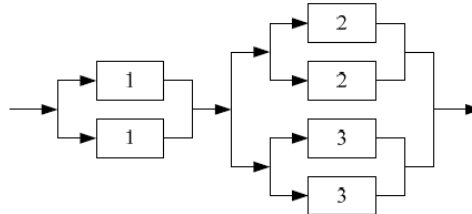

Figure 2A. Reliability block diagram
| <p>1A Define the following;</p> <p>i. Maintainability</p> <p>ii. Risk</p> <p>iii. Availability</p> <p>iv. MTBF</p> <p>1B Derive the expression for failure rate of a continuous random variable.</p> <p>1C With neat diagrams, explain reliability centered maintenance.</p> <p>2A Evaluate the MTTF for the system depicted in Figure 2A. Components are used during the phase with an approximately constant failure rate of the bath-tube curve and $\lambda = \lambda_1 = \lambda_2 = \lambda_3$.</p> <p>2C Describe fault tree analysis with a suitable example.</p> <p>3A Prove that component redundancy of a product is better than the system redundancy of a product.</p> <p>3B The failure time (T) of an electronic circuit board follows an exponential distribution with failure rate $\lambda = 10^{-4}$ /h. What is the probability that (i) it will fail before 1000 h; (ii) it will survive at least 10,000 h; (iii) it will fail between 1000 h and 10,000 h; Determine (iv) the mean time to failure (v) the median time to failure.</p> <p>3C Derive the expression for mean and variance of a weibull distribution.</p> <p>4A To ensure proper illumination in control rooms, higher reliability of electric lamps is necessary. Let us consider that the failure times (in hours) of a population of 30 electric lamps from a control room are given in Table 4A. Calculate failure density, reliability, and hazard functions using non parametric method.</p> <p>4B With a neat flow chart, describe the construction of a generalized Reliability Block Diagram (RBD).</p> <p>4C List the design considerations of maintainability.</p> <p>5A Using Rasmussen's decision-making model, describe different types of human actions and associated error mechanisms.</p> | <p>2</p> <p>4</p> <p>4</p> <p>5</p> <p>5</p> <p>3</p> <p>4</p> <p>3</p> <p>5</p> <p>3</p> <p>2</p> <p>3</p> |